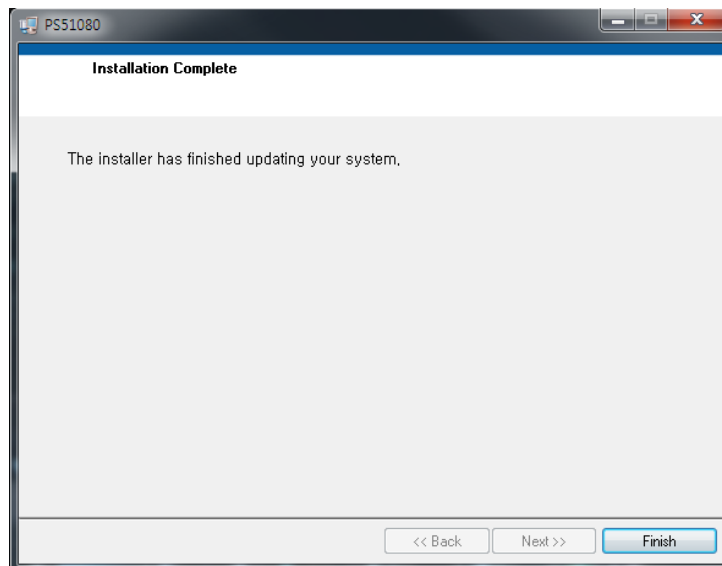

Figure 7-5: Installation Complete
5. When the installation is complete, click **Finish**, Figure 7-5.